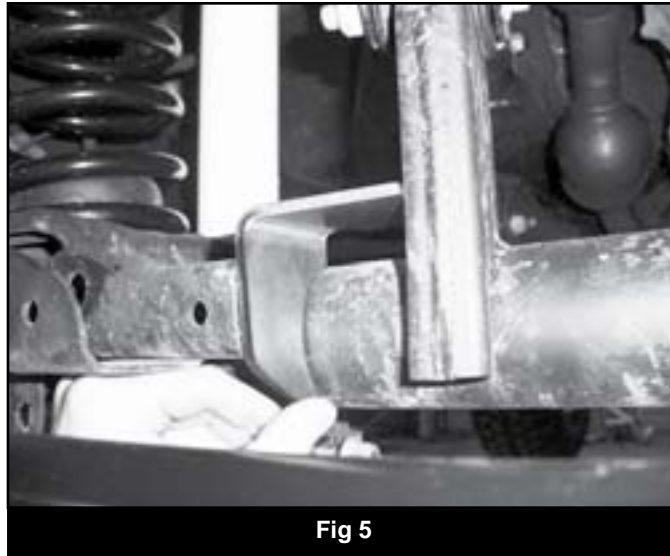

Fig 5
19. Position the provided "L" shaped front track bar gusset (01943) between the inside edge of the factory track bar mount and the driver's side UCA axle mount. Position the bracket so it is flush to the OE mount and the front edge is square to the front face of the OE mount (Fig 5). Note the areas to be welded and remove the gusset. Remove the paint from the areas to be welded, reposition the gusset and weld in place. Be sure to weld the gusset to the OE mount along all 3 edges, the gusset to the axle and the gusset to the UCA mount.